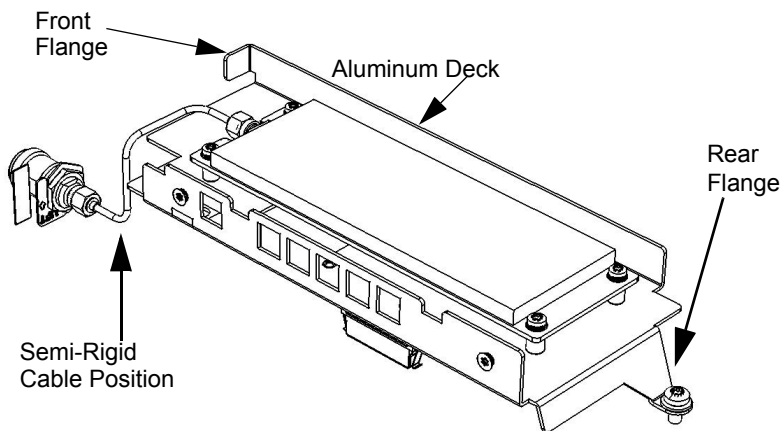

Figure 4-8. 53210A Channel 2 Front Panel Option 106/202
Refer as necessary to Figure 4-8.
- 14 Connect the supplied semi-rigid cable to the SMA connector on the connector-adapter. Finger-tighten the connector so that the cable is positioned to connect to the Channel 3 assembly as shown in Figures 4-8 and 4-12. *Do not* tighten the nut with a wrench yet.